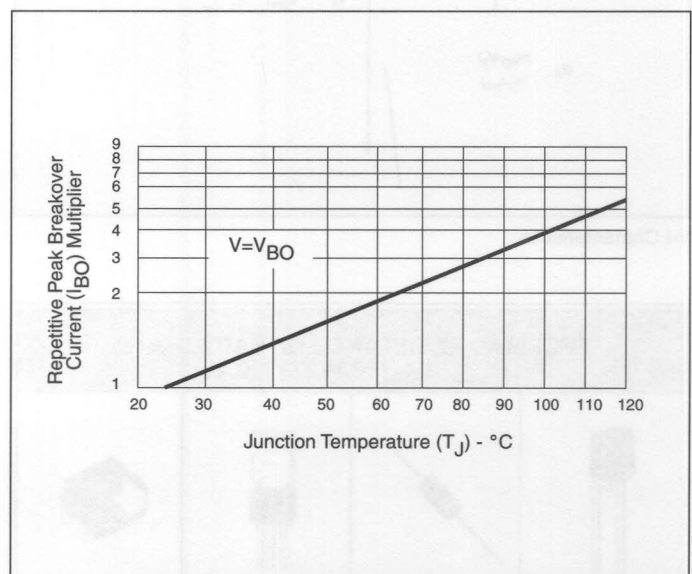

Figure 9.7 Normalized Repetitive Peak Breakover Current vs Junction Temperature
- See Figure 9.7 for I_{BO} vs junction temperature.